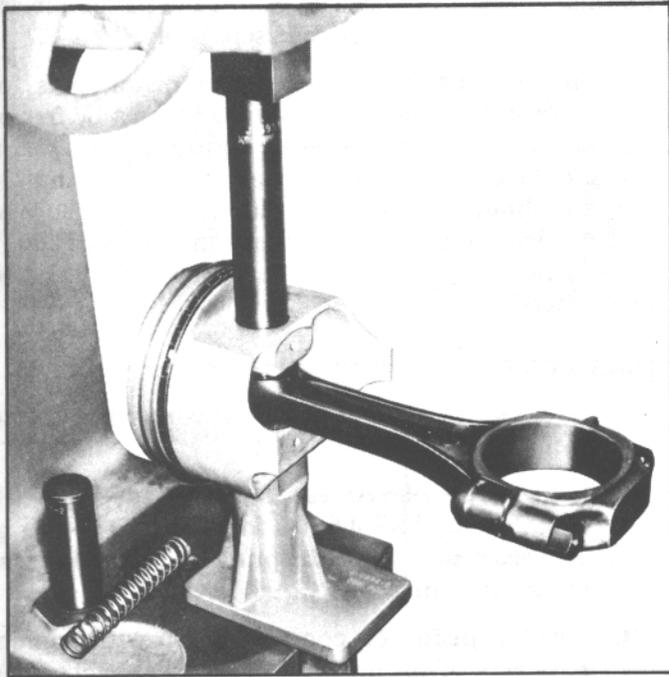
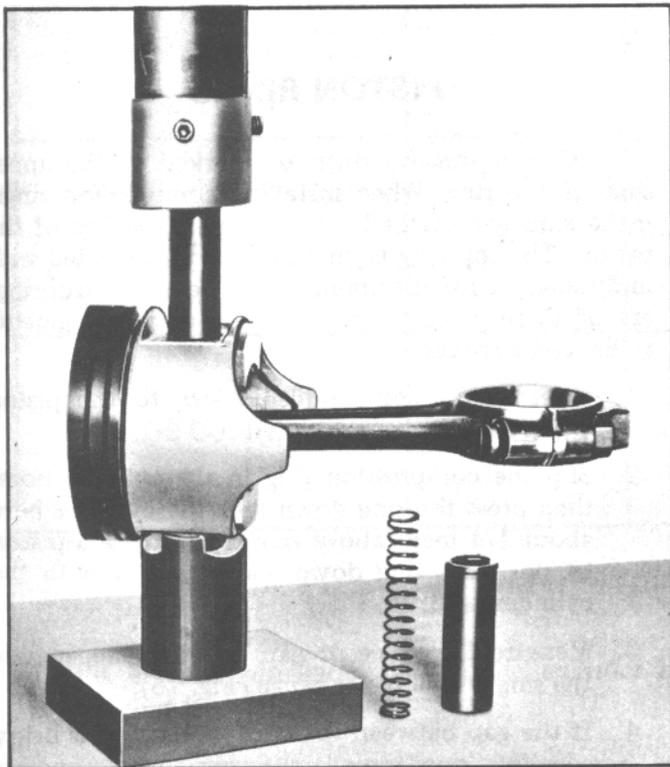

Fig. 73. Removing Piston Pin ("Mark IV V8")
Fig. 74. Removing Piston Pin (In-Line & "Small V8")
3. Using tool J-9510 for In-Line and "small V-8" (Fig. 74), or tool J-6994 for 454 CID (Fig. 73), place connecting rod and piston assembly in arbor press with piston on support then using